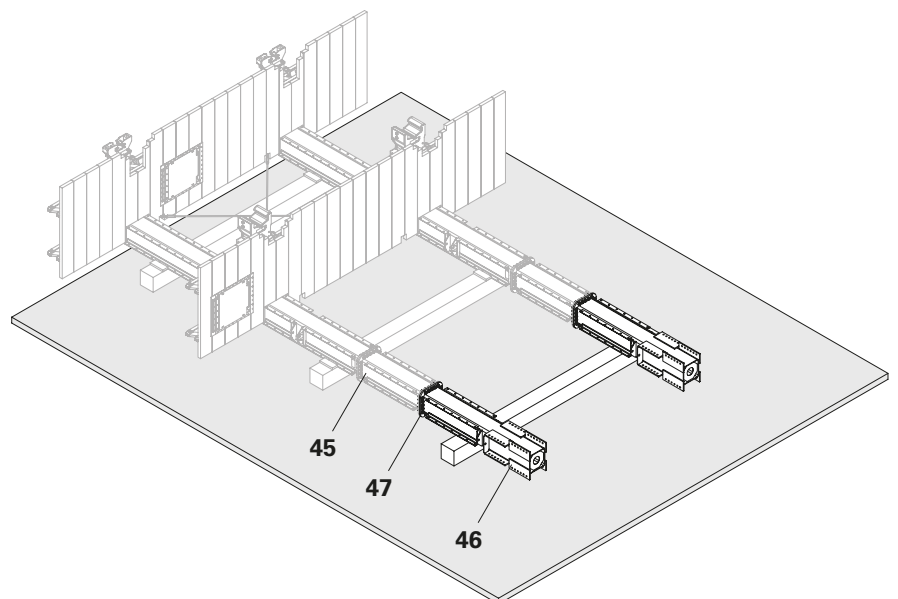

Fig. B5.02
1. Screw the Vertical Post Top 2100 ACS (**46**) onto the Vertical Post Intermediate 1200 ACS (**45**) with the HV-Bolt Set M20x75 (**47**). (Fig. B5.02)